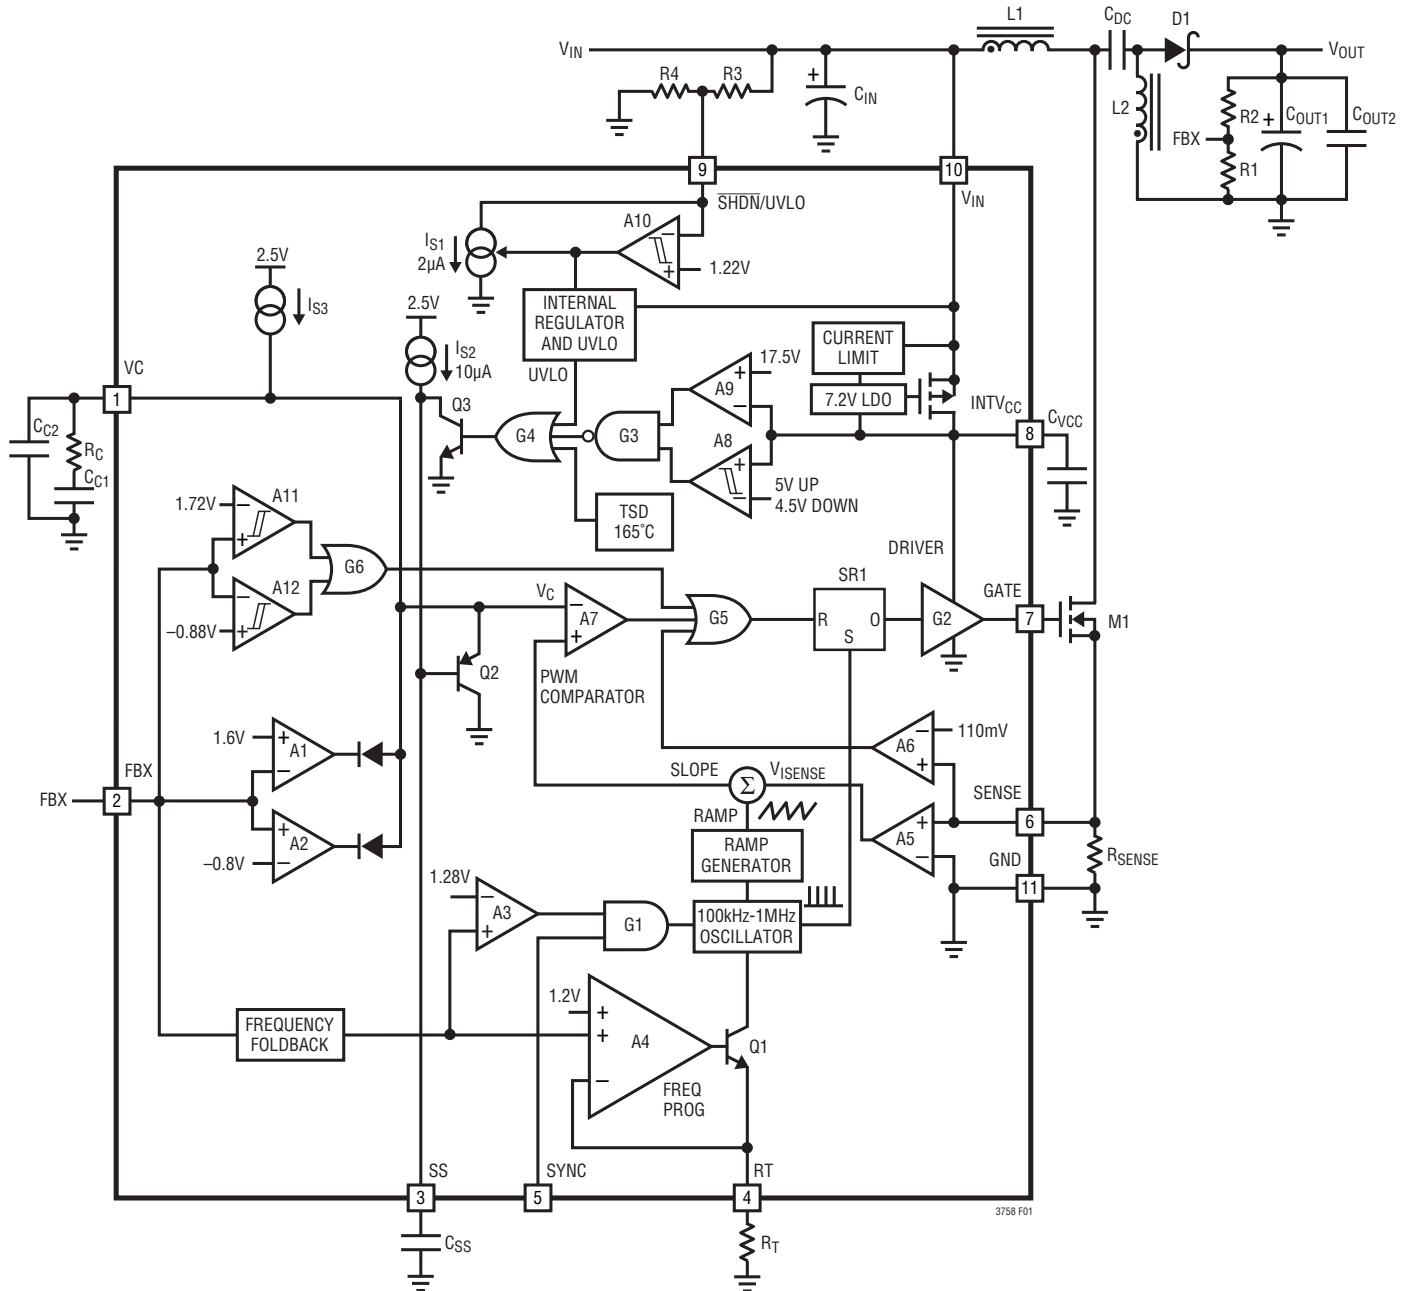

Figure 1. LT3758 Block Diagram Working as a SEPIC Converter
The LT3758 uses a fixed frequency, current mode control scheme to provide excellent line and load regulation. Operation can be best understood by referring to the Block Diagram in Figure 1.
The LT3758 is capable of generating either positive or negative output voltage with a single FBX pin. It can be configured as a boost, flyback or SEPIC converter to generate positive output voltage, or as an inverting converter to generate negative output voltage. When configured as a SEPIC converter, as shown in Figure 1, the FBX pin is pulled up to the internal bias voltage of 1.6V by a voltage divider (R1 and R2) connected from V_{OUT} to GND. Comparator A2 becomes inactive and comparator A1 performs the inverting amplification from FBX to VC. When the LT3758 is in an inverting configuration, the FBX pin is pulled down to -0.8V by a voltage divider connected from V_{OUT} to GND. Comparator A1 becomes inactive and comparator A2 performs the noninverting amplification from FBX to VC.
The purpose of this current is to allow the user to program the rising hysteresis. The Block Diagram of the comparator and the external resistors is shown in Figure 1. The typical falling threshold voltage and rising threshold voltage can be calculated by the following equations:
An internal, low dropout (LDO) voltage regulator produces the 7.2V INTV_{CC} supply which powers the gate driver, as shown in Figure 1. The LT3758 contains an undervoltage lockout comparator A8 and an overvoltage lockout comparator A9 for the INTV_{CC} supply. The INTV_{CC} undervoltage (UV) threshold is 4.5V (typical), with 0.5V hysteresis, to ensure that the MOSFETs have sufficient gate drive voltage before turning on. The logic circuitry within the LT3758 is also powered from the internal INTV_{CC} supply.
The choice of operating frequency may be determined by on-chip power dissipation, otherwise it is a trade-off between efficiency and component size. Low frequency operation improves efficiency by reducing gate drive current and MOSFET and diode switching losses. However, lower frequency operation requires a physically larger inductor. Switching frequency also has implications for loop compensation. The LT3758 uses a constant-frequency architecture that can be programmed over a 100kHz to 1000kHz range with a single external resistor from the RT pin to ground, as shown in Figure 1. The RT pin must have an external resistor to GND for proper operation of the LT3758. A table for selecting the value of R_T for a given operating frequency is shown in Table 1.
The output voltage V_{OUT} is set by a resistor divider, as shown in Figure 1. The positive and negative V_{OUT} are set by the following equations:
The LT3758 addresses this mechanism with the SS pin. As shown in Figure 1, the SS pin reduces the power MOSFET current by pulling down the VC pin through Q2. In this way the SS allows the output capacitor to charge gradually toward its final value while limiting the start-up peak currents. The typical start-up waveforms are shown in the Typical Performance Characteristics section. The inductor current I_L slewing rate is limited by the soft-start function.
Loop compensation determines the stability and transient performance. The LT3758 uses current mode control to regulate the output which simplifies loop compensation. The optimum values depend on the converter topology, the component values and the operating conditions (including the input voltage, load current, etc.). To compensate the feedback loop of the LT3758, a series resistor-capacitor network is usually connected from the VC pin to GND. Figure 1 shows the typical VC compensation network. For most applications, the capacitor should be in the range of 470pF to 22nF, and the resistor should be in the range of